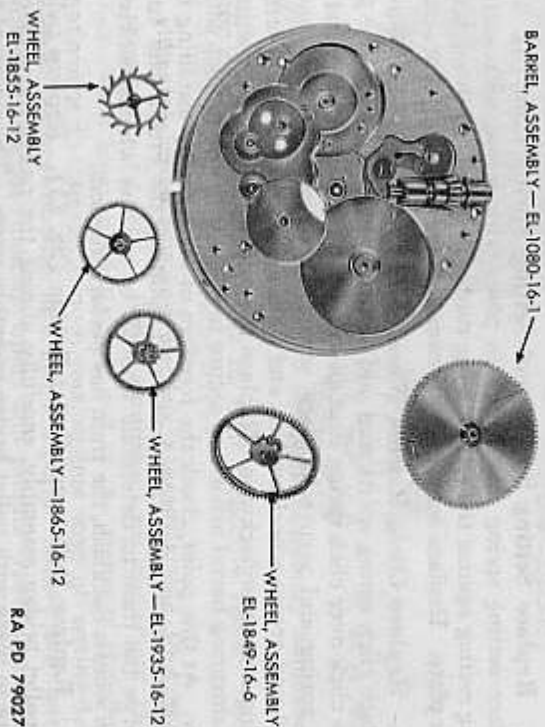

Figure 88 — Elgin Pocket Watch — Train Wheels and Barrel Assembly Removed
4. **Remove Train Wheels and Barrel Assembly** (fig. 88). Using tweezers, remove, in order, the center, third, fourth, and escape wheels. Remove barrel assembly.
- c. **Replace the Train Wheels and Barrel Assembly** (fig. 88). Place barrel assembly on the pillar plate; replace third wheel, escape wheel, fourth wheel, and center wheel.